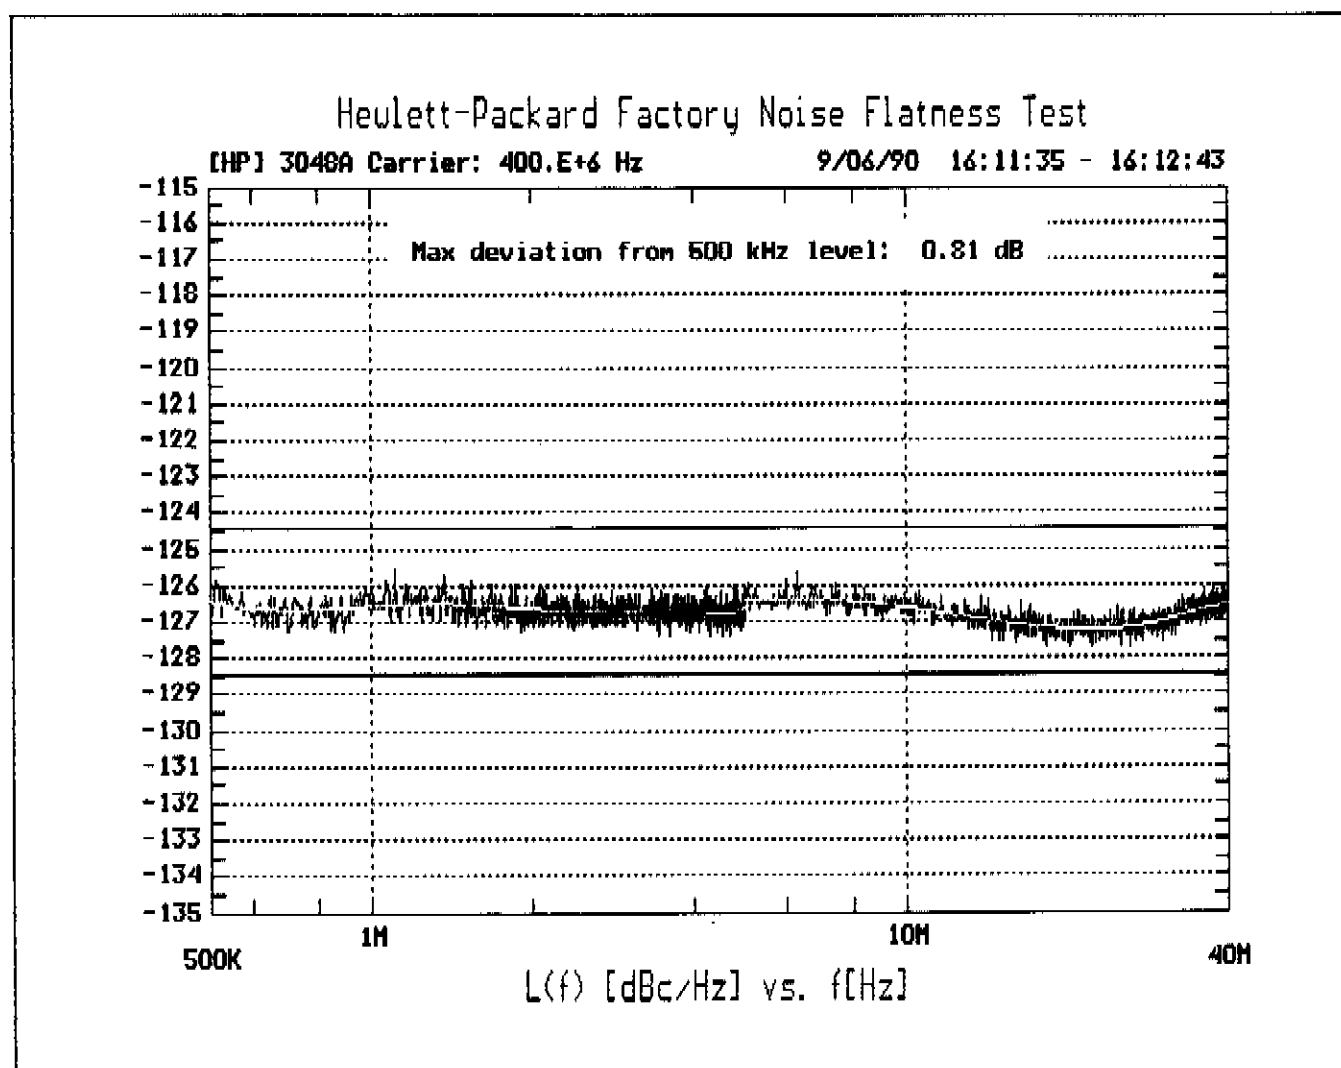

Figure 6. Typical Noise Flatness Test Results
5. Press the **[F1]**. The measurement should proceed automatically without error messages (but see the following note) and the measured noise should be similar to that shown in figure 6. (The measurement takes about 5 minutes depending on the controller.)